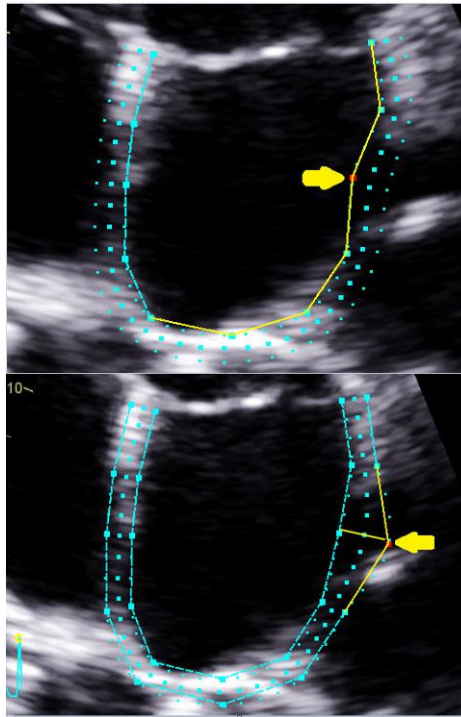

Figure 8-28. ROI editing options
- Click-and-drag (or click, move the mouse, click to release) on the endocardial part of the ROI. Endocardial editing edits the whole ROI (see Figure 8-28, upper part).
- Click-and-drag (or click, move the mouse, click to release) the anchor points on the epicardial ROI (highlighted in red on mouse hovering). Epicardial editing edits the epicardial part only (see Figure 8-28, lower part).